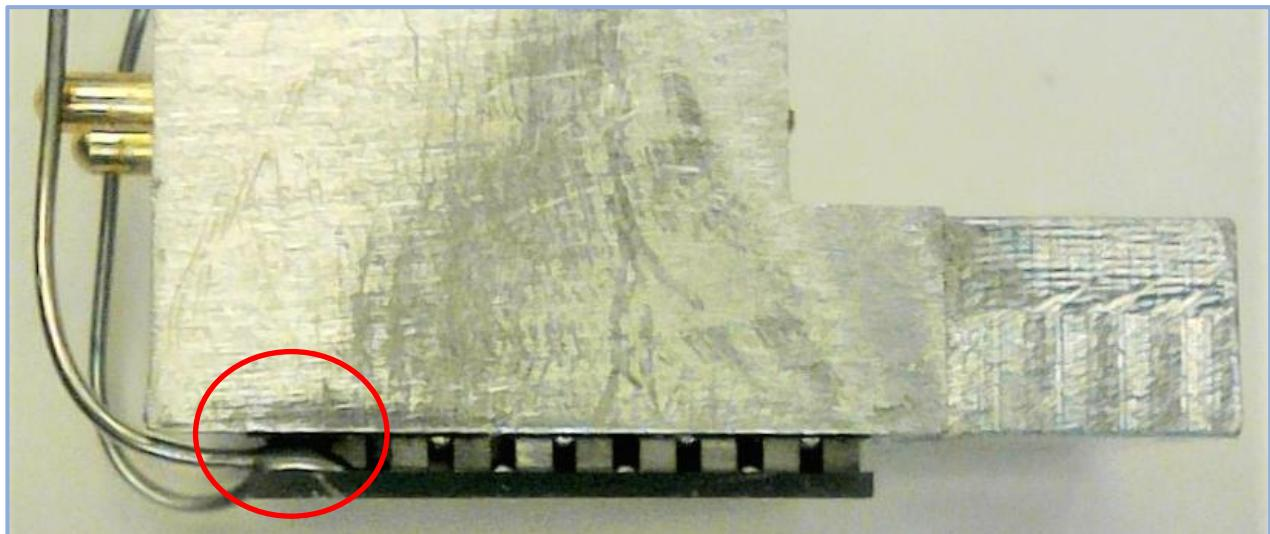

Figure 19 - TEC Orientation in Fixture
- 9.6.3 **ATTACH PART TO PART FIXTURE.** The two sides of the TEC (000000-00) are visibly identical with only one exception. Figure 19 identifies this difference: the wires are soldered to one side.
9.6.3.2 Adhere the Part to the double-sided tape. Orient the Part as seen in Figure 19:
- (A) The TEC wires are on the same side as the gold pins on the fixture.
- (B) The side of the TEC that the wires are soldered to is facing down i.e., away from the fixture.